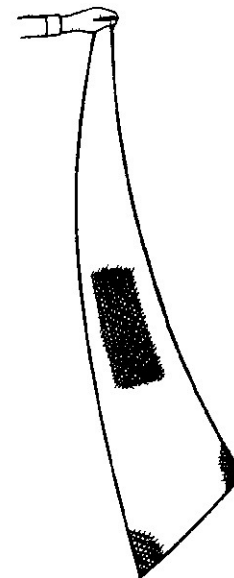

FIG. 8
**NOTE:** The mesh panels used on the **ECLIPSE** series are now preformed for enhanced KU-band performance. The contour of the panels must be installed correctly for this antenna to perform as such. Viewing at an angle prior to installation will ensure the preformed shape of each panel. (See Fig. 8) Install each panel into the rib grooves with the curved side down (outwardly).